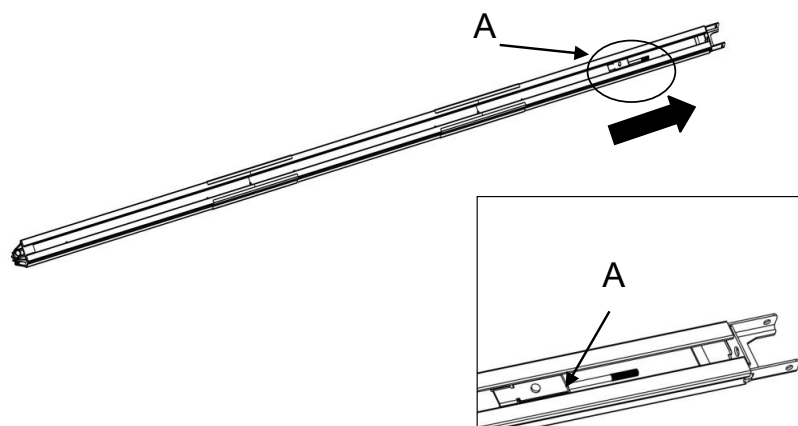

Fig. 7
4. As Fig.7, pull the screw rod "A" along with inner chain to the end of top rail ;